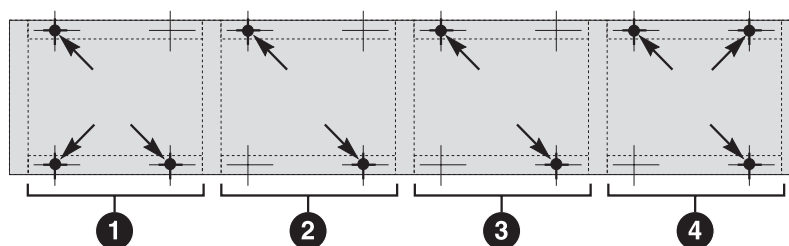

Fig. 11
- Position the first section and secure it to the floor using three M10 anchor bolts (see Fig. 11 and 12).
- Secure the second section to the floor using two M10 anchor bolts at diagonally opposite corners (see Fig. 11).